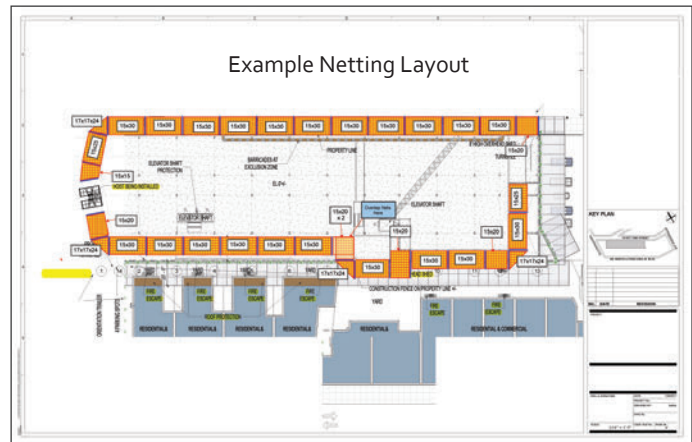

Fig 1
Lay Column Mount Bracket on edge of deck and secure around column using ratchet straps. (See Fig 1).
1. Based on the netting layout, determine where slab brackets will be placed on existing deck. Layout and mark the first bracket and use that as the starting point to determine where the next bracket is to be placed. If there is a corner net, position the corner brackets as close together as possible. If a building column is located at the corner, additional hardware and netting may be required. (see figure 1)